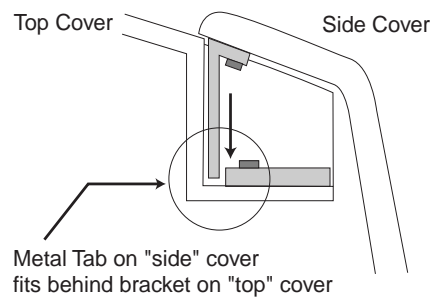

Figure A-3 Side and Top Cover Clasp
- 3.) Remove the right side cover by lifting it upward to release the two (2) latches, located on the top edge of the cover. See Figure A-3. Once removed, the service switches should be exposed.